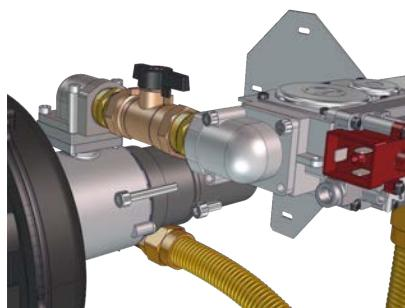

Figure 65 Gas valve outlet screws
7. Remove the screws from the outlet side of the gas valve (see ⑩ on 8.0) to separate the gas valve from the appliance. To do this, ensure that you support the bottom of the gas valve when you remove the bottom two (2) screws (see Figure 65) and then the top two (2) screws.